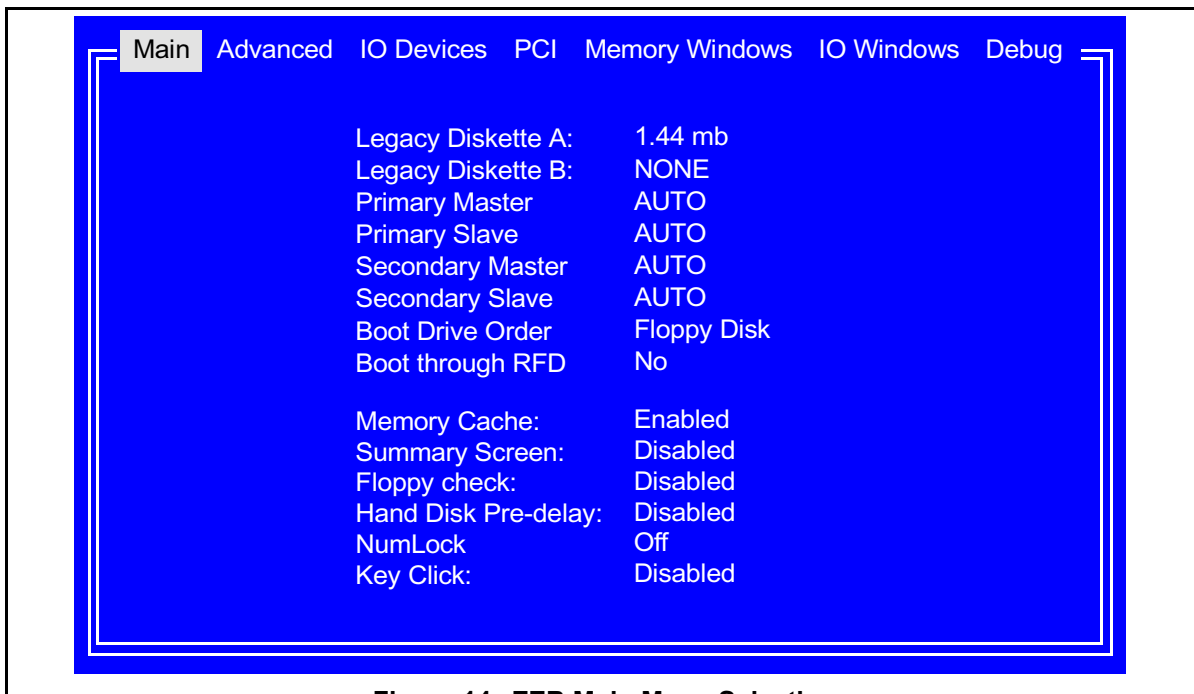

Figure 14. ZEB Main Menu Selections
3. The ZEB utility displays seven top-level menu selections. Using the right and left arrow keys, select the **Main** menu item. See Figure 14.